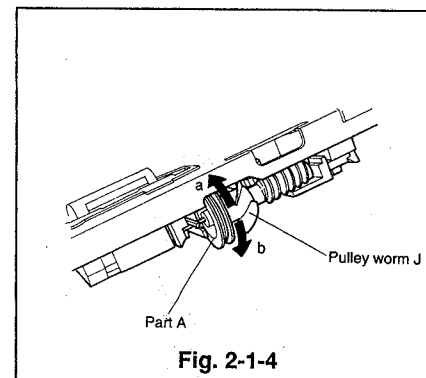

Fig. 2-1-4
- ② If the deck is not completely set to the eject position, turn part A of the pulley worm J by hand to set the eject position. (Refer to Fig. 2-1-4)